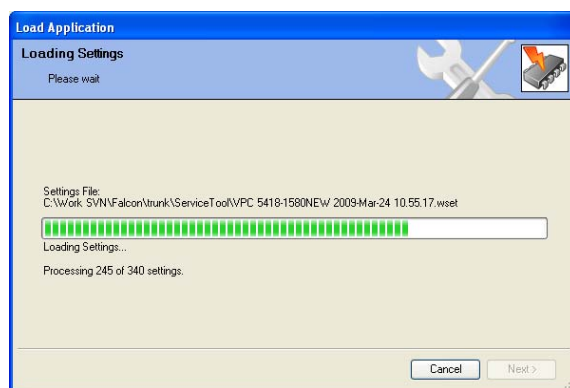

Figure 5-11. Loading Settings Screen
16. If this screen is shown, the conversion worked correctly. Please follow the instruction and click on the Next button (Figure 5-11).